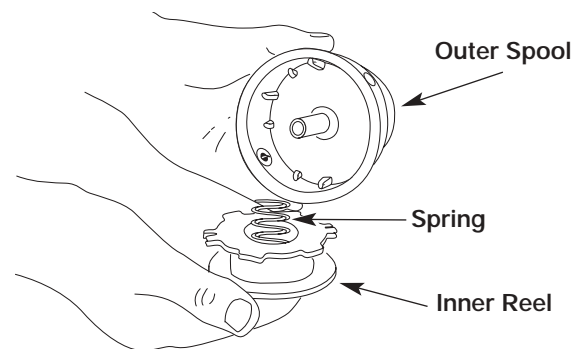

Figure 18
2. Remove the inner reel from the outer spool. See Figure 18.
3. Remove spring from the inner reel. See Figure 18.
2. Remove the old inner reel from the outer spool. See Figure 18.
3. Remove the spring from the old inner reel. See Figure 18.